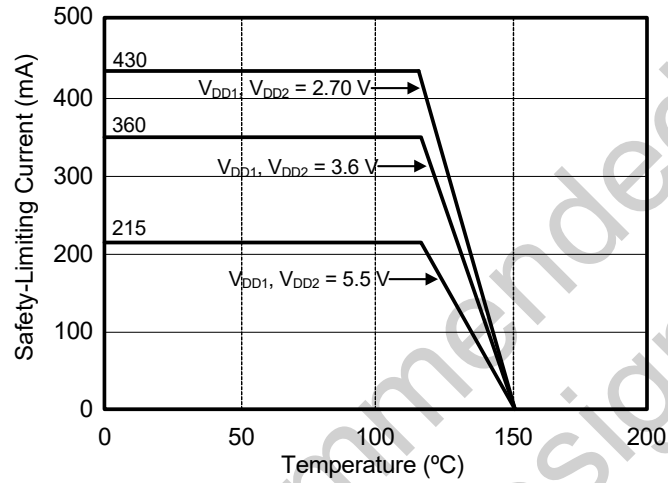

Figure 3. (NB SOIC-16) Thermal Derating Curve, Dependence of Safety Limiting Values with Case Temperature per DIN EN 60747-5-2
1. Maximum value allowed in the event of a failure; also see the thermal derating curve in Figure 3.